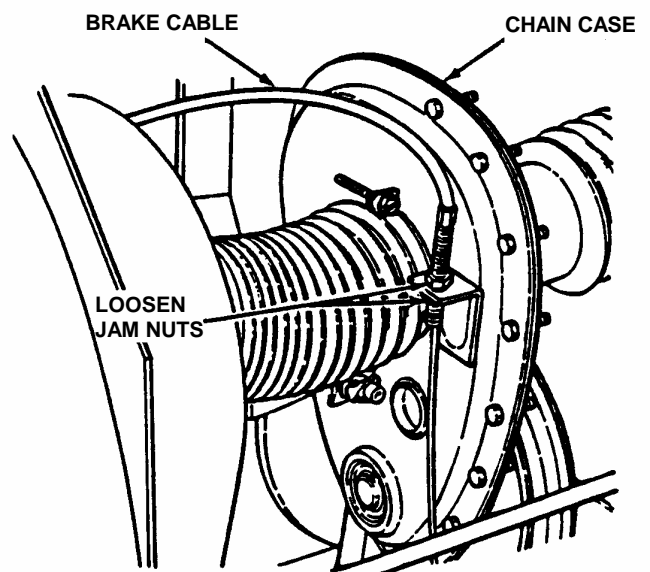

FIGURE 4.10
6. If measurement is less than 3/4", loosen the two jam-nuts. See Figure 4.10. Hold the clutch/brake cable to the chain case bracket.